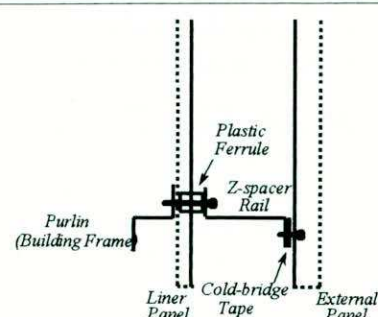

Fig. 8. Representation of the build-up of a typical double-skin cladding system
Equation (4) can be applied to both isotropic and orthotropic sheets. However, the assumption of no sound bridging is rather unrealistic for cladding systems. Figure 8 shows the typical fixing method of standard double-skin cladding systems. The cladding is affixed by screws to the